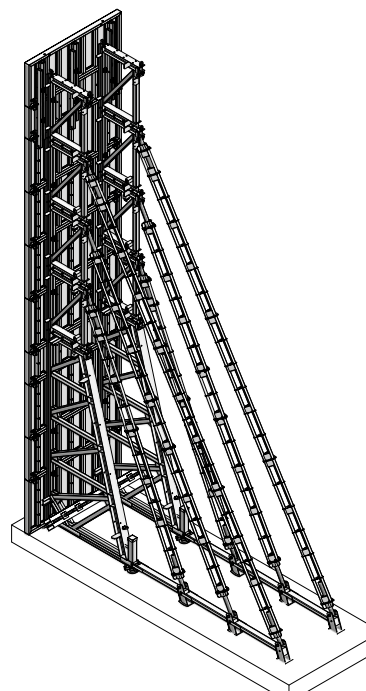

Fig. 11.4 Up to a formwork height of 11.00 m:
- Up to 11.00 m – Four height extensions, base extension, Triplex SB braces (Fig. 11.4)